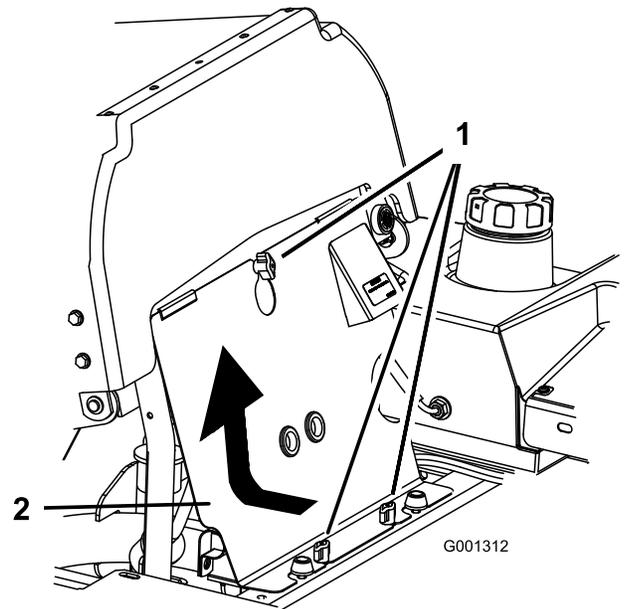

Figure 92
3. Loosen the front engine panel knobs and remove the panel (Figure 92).